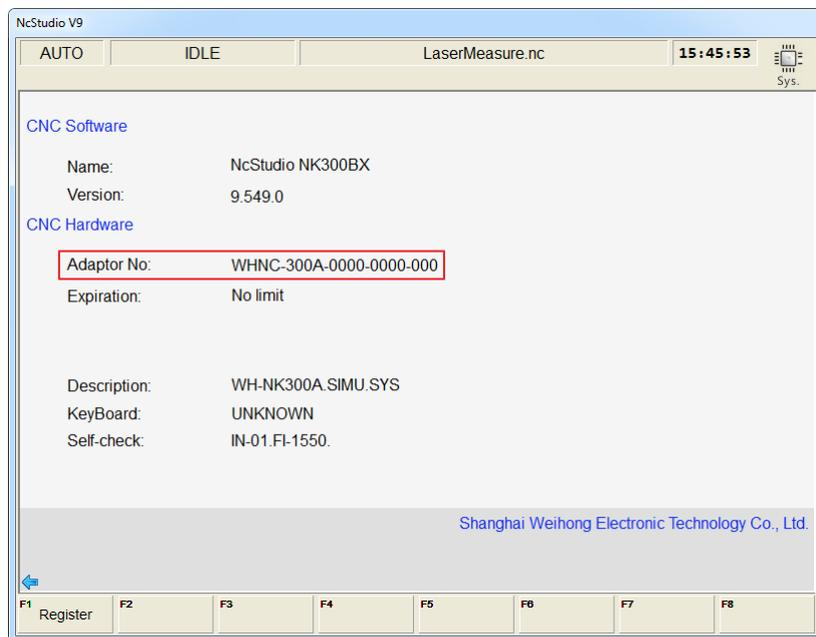
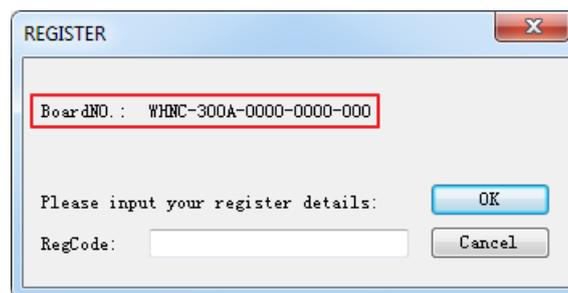

Fig. 3-97 Board serial number
Fig. 3-98 Board serial number in the pop-up dialog box
- 1) Turn to system info interface to get the adaptor serial number, as shown in Fig. 3-97. Or you can press F1 “Register” in Fig. 3-97 and get the serial number in the pop-up dialog box, as shown in Fig. 3-98.